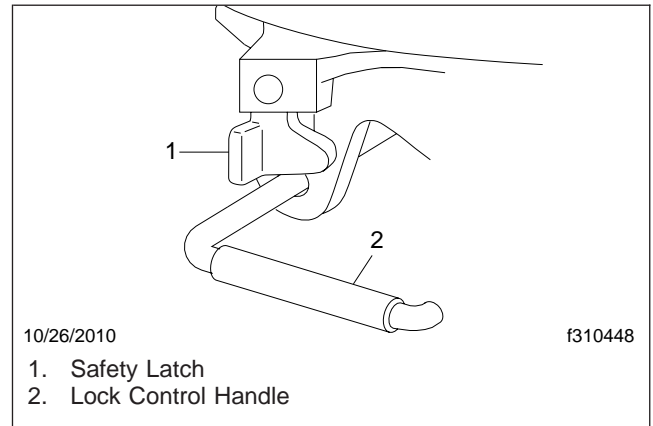

Fig. 2, Left-Side View
- 1.2 Make sure the safety latch swings freely over the lock control handle. See **Fig. 2**. This places the fifth wheel in the coupled and locked position.